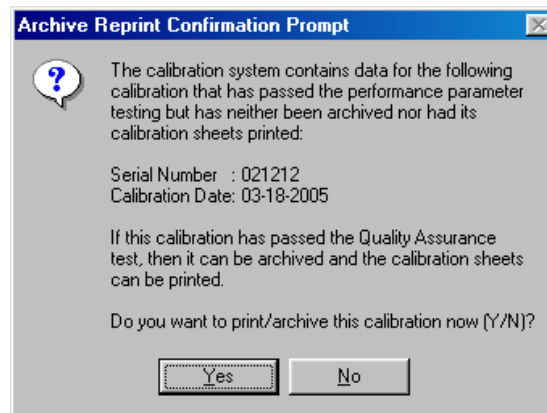

Figure 2–25. Archive Reprint Confirmation Prompt
1. From the **Function Menu** of the TCS program (see Figure 2–6 on page 2–10), click the **<Store/Print Calibration>** button. The **Archive Reprint Confirmation Prompt** (see Figure 2–25) is displayed.